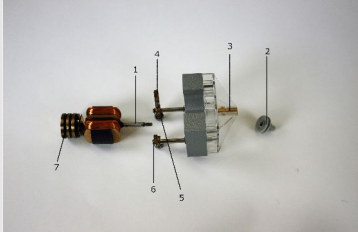
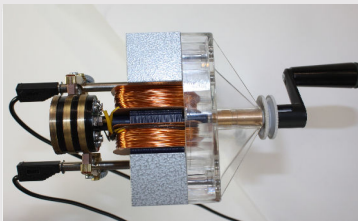

Fig. 2
Fig. 3
- Assemble the motor attachment according to fig. 2 and fig. 3 on the next slide.
- Place the abrasive brushes [4] of the motor attachment against one unbroken slip ring each as shown in Fig. 3.